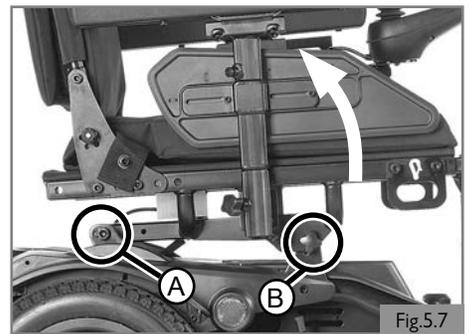

Fig.5.7
**5.5 Fixed seat tilt (Fig 5.7)**